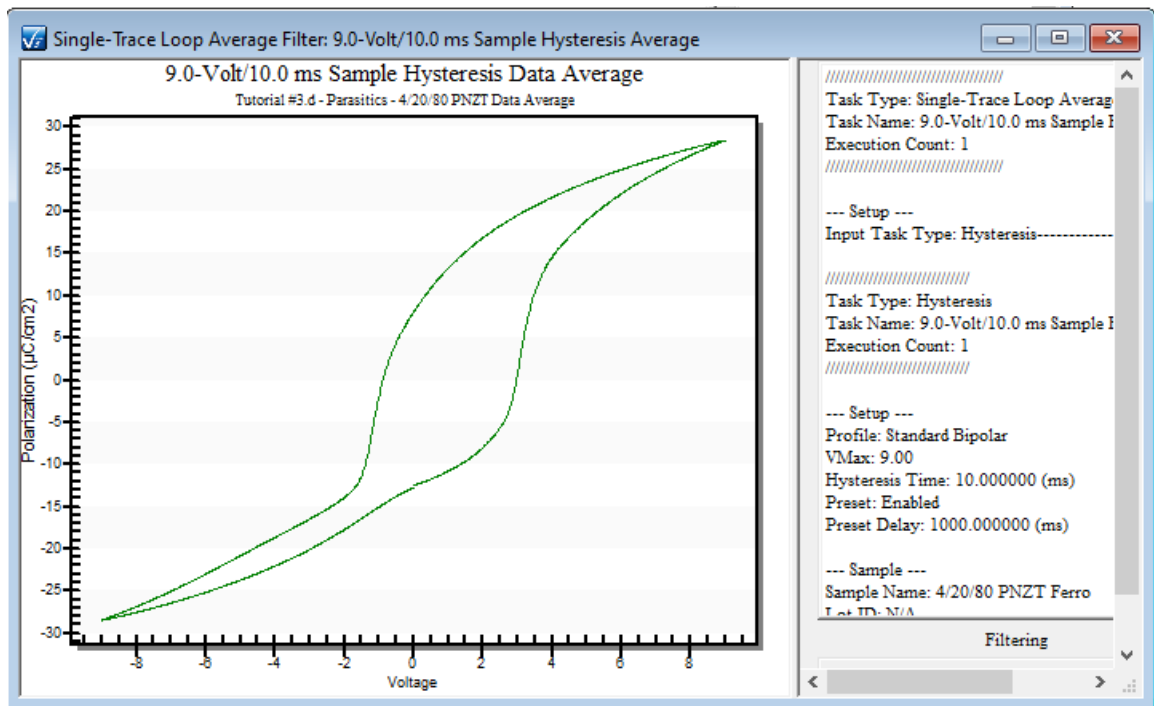

Figure 24 - Sample Measurement - Iteration 1 - Unaveraged.
- When the Pause Task is acknowledged, the Test Definition will enter a Branch Loop in which a Hysteresis measurement is made that passes its data into an Accumulate/Average Filter. The measurement and data averaging are repeated twenty times. This is the sample process as in sequence 2 of this step. The only differences should be that the sample is placed in the signal path and Filter plot labeling reflects the sample presence. **Figures 24** through **26** show the progress of the noise reduction at step 1, 10 and 20. The polarization ($\mu\text{C}/\text{cm}^2$) of the 4/20/80 PNZT sample in the figures is not low with respect to measurement noise, so the averaging does not appear to improve the measurements in these examples. Nevertheless, the techniques of these examples are valid noise reduction options.